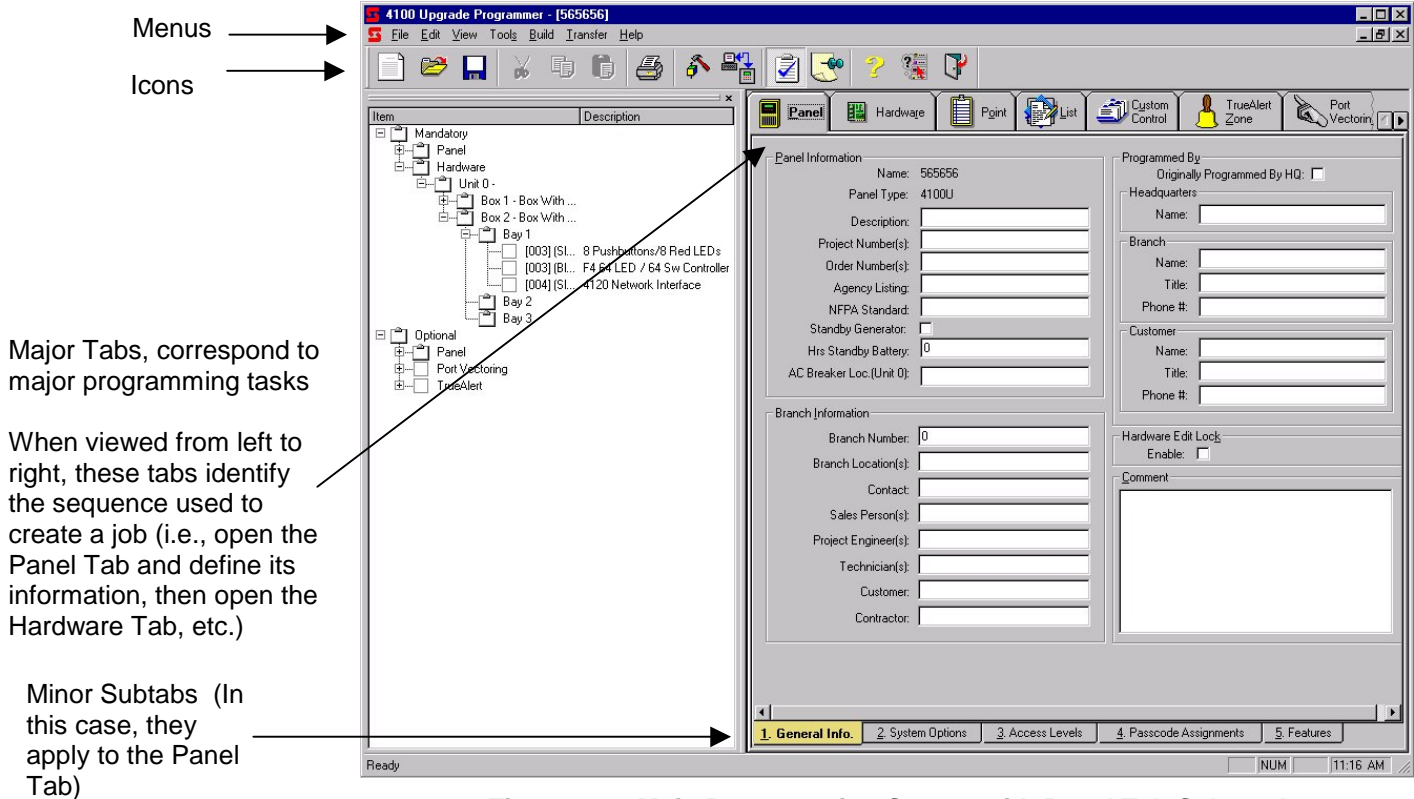

Figure 1-2. Main Programming Screen with Panel Tab Selected
- **Minor Sub Tabs.** Some of the major tabs, such as the Panel Tab shown in Figure 1-2, have a set of minor tabs associated with them. Minor tabs are used to break down the major tab into specific programming areas, and only appear when the associated major tab is selected.